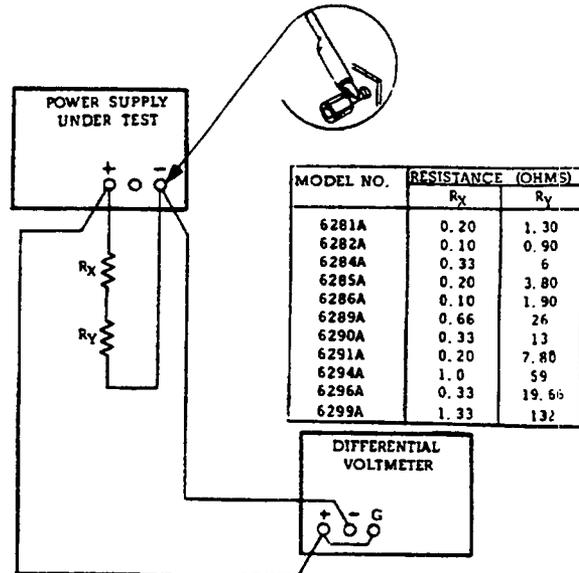

Figure 5-5. Load Regulation, Constant Voltage
- a. Connect test setup as shown in Figure 5-5.
- c. Connect test setup shown in Figure 5-5.